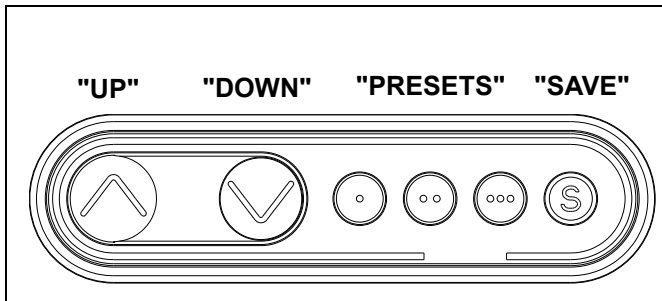

Figure 28
10. Press and hold "DOWN" button for three seconds to initialize lift mechanism. (See Figure 28)
11. Press and hold "UP" button until mount reaches its maximum height. (See Figure 28)